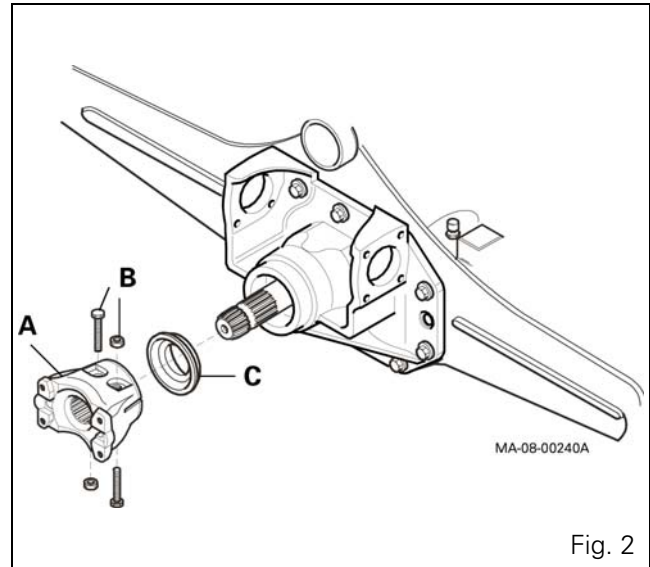

Fig. 2
- for fixed front axles: Fig. 2.